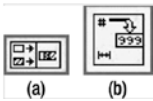

Figure 10-12. (a) *The Concatenate String Function and (b) the Number to Decimal String Function*
- Concatenate String: This function is used to combine two or more strings (see Figure 10-12(a)).
- Number to Decimal String: This function converts a numerical value to a string value (see Figure 10-12(b)).